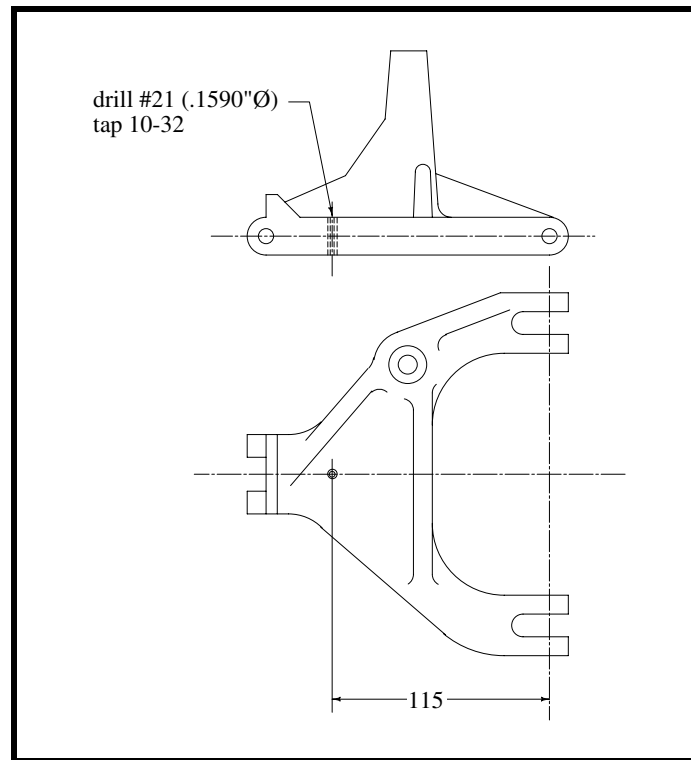

Figure 3
- ❑ Drill and tap the hole in P/N 618A for the gear up limit switch screw. See Figure 3.